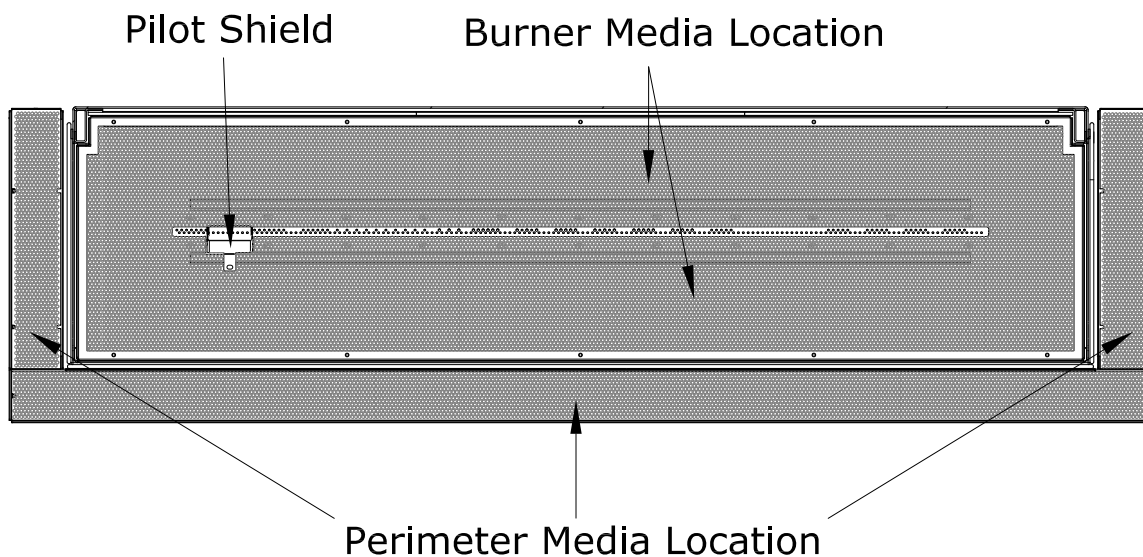

Figure 7.12 - Crushed Media Location
**IMPORTANT:** It is required that no crushed media blocks the pilot flame from igniting the burner. A blocked pilot may cause a delayed ignition. Figure 7.12 shows an arrow on the left that is pointing to the pilot shield around the pilot. Do not place media inside the media guard to cover or block the pilot.
**IMPORTANT:** Inspect and ensure the lighting of the main burner occurs within (4) seconds of the main gas valve opening.